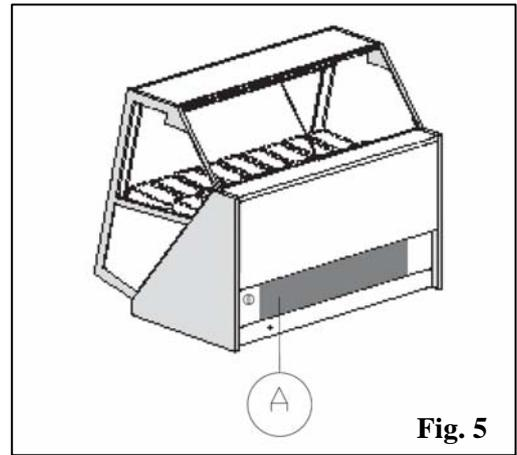

Fig. 5
- the cooling air grills of the condenser are not blocked (fig. 5 pos. A);